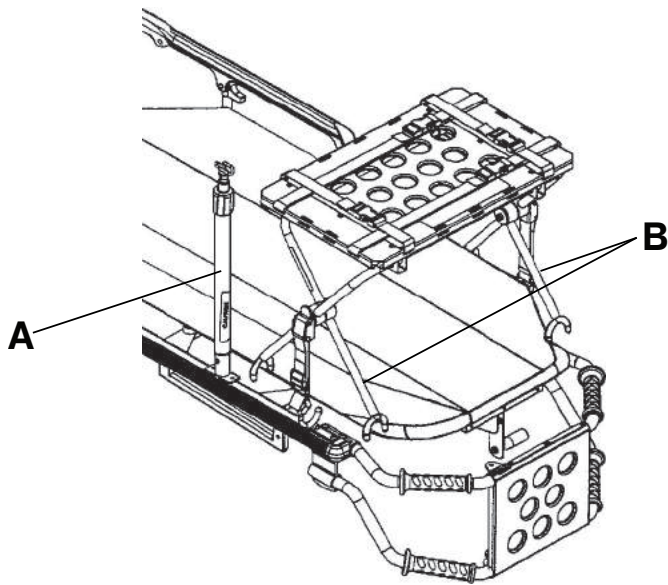

Figure 26 – Raise IV pole and position defibrillator tray (Model 6506 shown)
3. If the product is equipped with an IV pole, raise the IV pole (A) to the up position (Figure 26).
5. Position the inside legs (B) of the defibrillator platform toward the head end of the product (Figure 26).